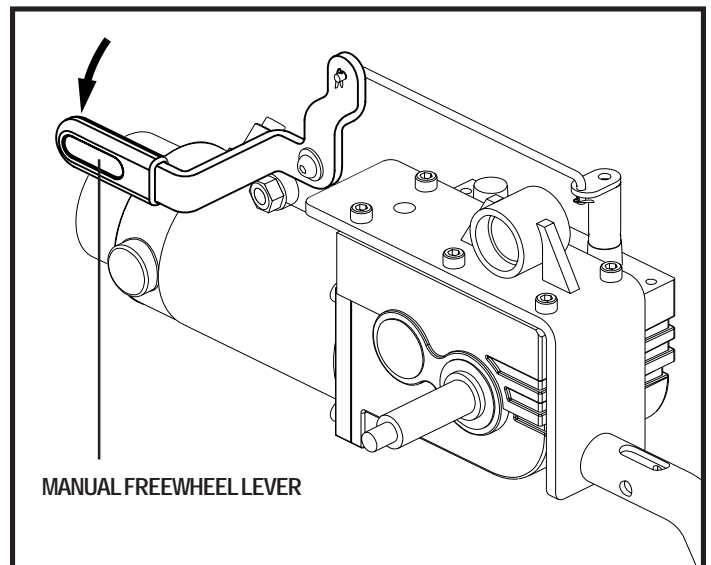

Figure 9. Freewheel Mode (Drive Disengaged)
3. Push the two levers downward to disengage the drive motors (freewheel mode). See figure 9.